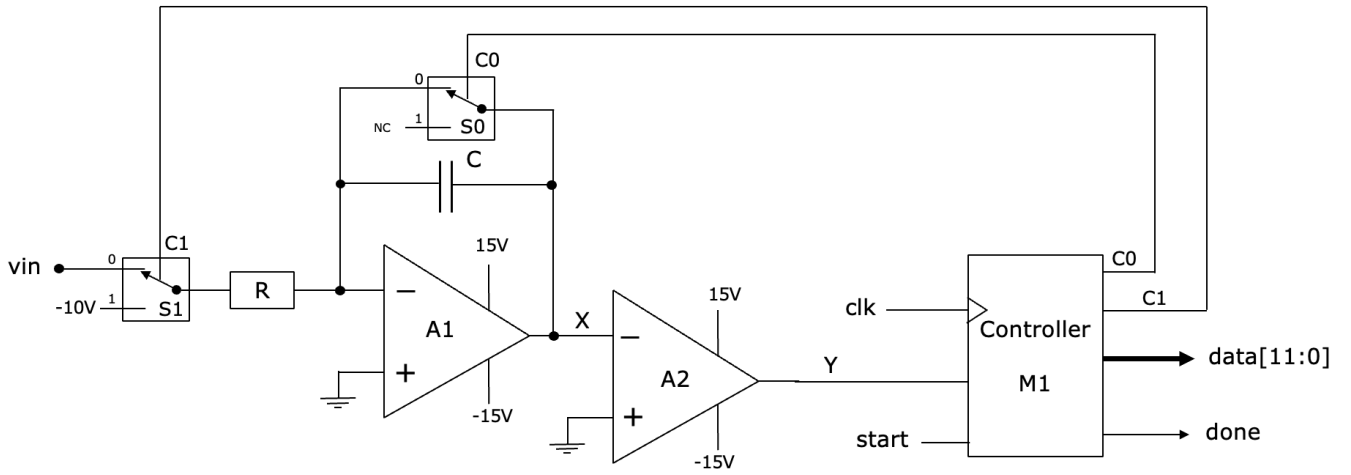

Figure 3.1
3. *Figure 3.1* shows an analogue-to-digital converter (ADC) design using the dual-slope technique. The converter consists of an op-amp A1 configured as an integrator with an output signal X , an analogue comparator A2 that produces a digital compatible output Y , two 2-pole electronic switches S0 and S1, and a digital controller M1. Both A1 and A2 operate with a $\pm 15V$ power supply.